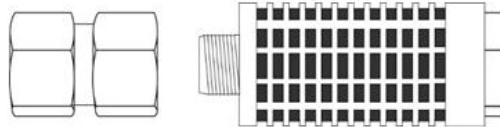

Figure 12: Exhaust Muffler
- The *Internal Pump Exhaust* port is located on the back panel of the analyzer. It can either be connected to the provided muffler (Figure 12) to expel exhaust into the room air, or the exhaust can be routed to the facility ventilation system using ¼" tubing.